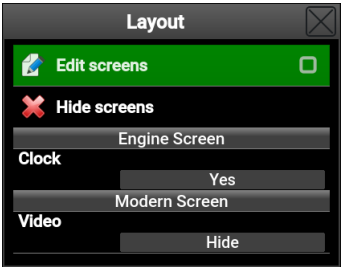

Figure 6.1: Option that must be enabled before screen editing.
2. Check the **Edit screens** options, see Figure 6.1.